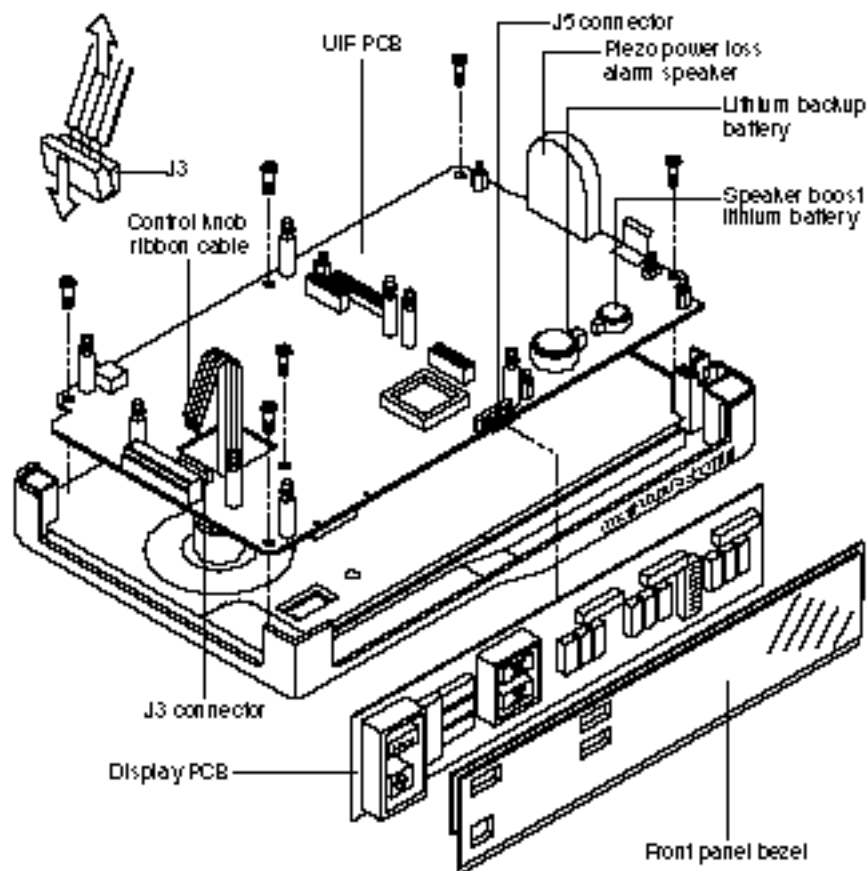

Figure 6-9: Display PCB and UIF PCB Disassembly
- Remove the front-panel bezel by gently lifting it up and rotating it away from the Display PCB as illustrated in Figure 6-9.
3. Locate the lithium batteries on the UIF PCB (Figure 6-9). The backup lithium battery (the larger of the two lithium batteries) is used to supply backup power to the UIF processor if the lead-acid battery fails during DC use. It also supplies power to the piezo power loss alarm speaker during a microprocessor or power failure alarm. The other (smaller) battery provides additional voltage to power the piezo speaker.